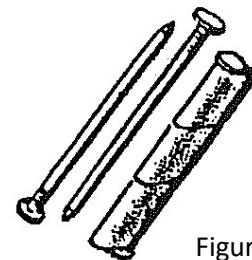

Figure 2
- ✎ Using two pairs of 2 ½" nails with the heads and points in opposite directions, wrap tape around them as shown in *Figure 2*. Wrap tape around each pair with heads and points alternating. When complete, there will be 2 sets of 2 nails, taped head to end together.